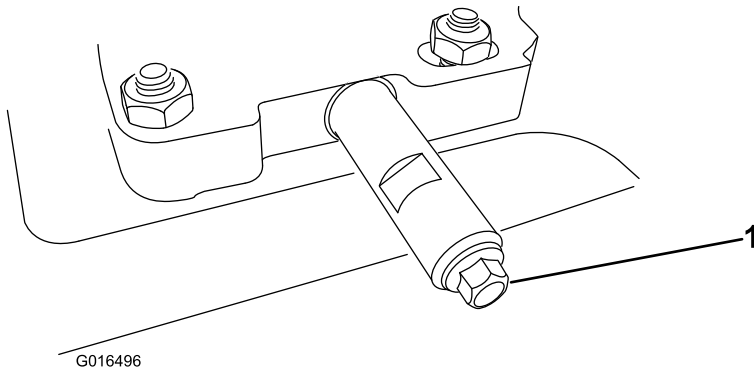

Figure 34
2. Clean the area around the oil-drain cap (Figure 34).